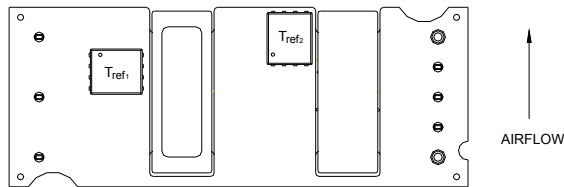
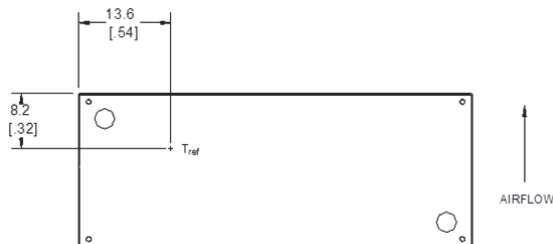

Figure 13.  $T_{ref}$  Temperature Measurement Locations for Open Frame Module.
Figure 14.  $T_{ref}$  Temperature Measurement Location for Module with Heatplate.
To provide protection under certain fault conditions, the unit is equipped with a thermal shutdown circuit. The unit will shutdown if the thermal reference point,  $T_{ref}$ , exceeds 122° and 123°C (Figure 13, typical) or 105 °C (Figure 14, typical), but the thermal shutdown is not intended as a guarantee that the unit will survive temperatures beyond its rating. The module will automatically restart upon cool-down to a safe temperature.
The thermal reference points,  $T_{ref1}$  and  $T_{ref2}$ , used in the specifications for open frame modules are shown in Figure 13. For reliable operation these temperatures should not exceed 122° and 123 °C respectively.
The thermal reference point,  $T_{ref}$ , used in the specifications for modules with heatplate is shown in Figure 14. For reliable operation this temperature should not exceed 100 °C.